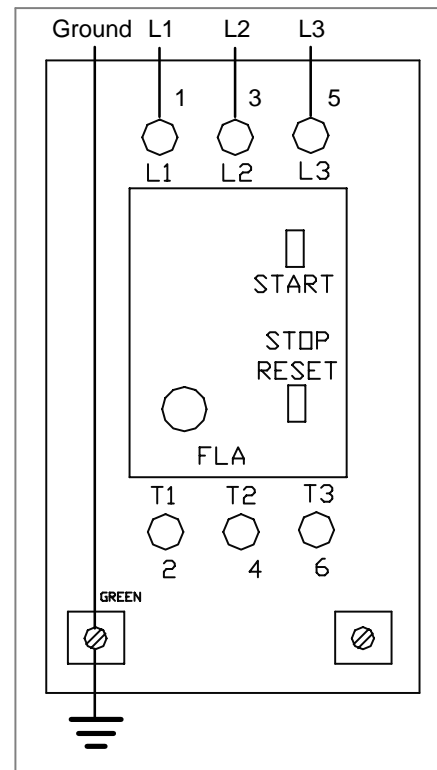

Figure 12
2. Insert line cord through grip (AB) and tighten nut.
3. For correct three-phase motor shaft rotation, connect line phase sequence L1, L2 & L3 to terminals as shown (Figure 12).
**NOTE:** The motor ground wire is also attached to left terminal marked  $\perp$  (Figure 12).
4. Attach ground wire to lower left terminal marked  $\perp$  (see Figure 12).